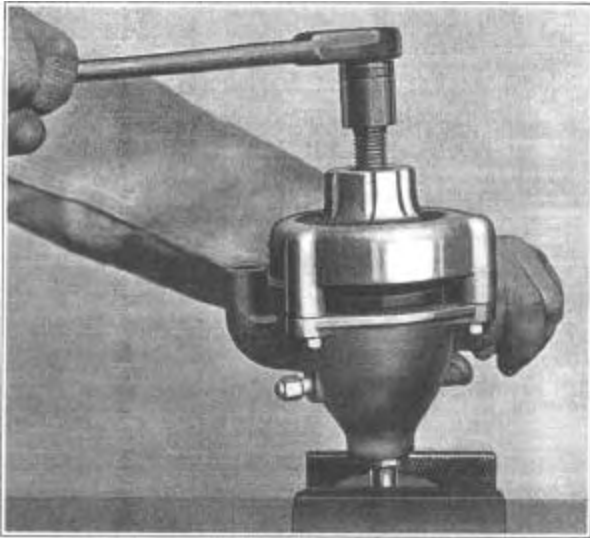

Figure 520—Removing Shaft
25. After removing burr, remove thumb screw and cutter and install the driver (No. 4) in the thumb screw and drive the shaft through the impeller, Figure 520.